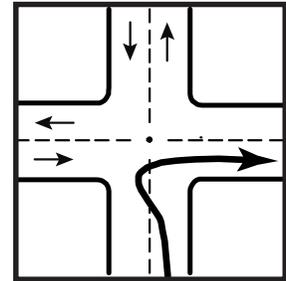

Figure 2-9
- Don't turn wide to the left as you start the turn, as shown in Figure 2-9. A following driver may think you are turning left and try to pass you on the right. You may crash into the other vehicle as you complete your turn.